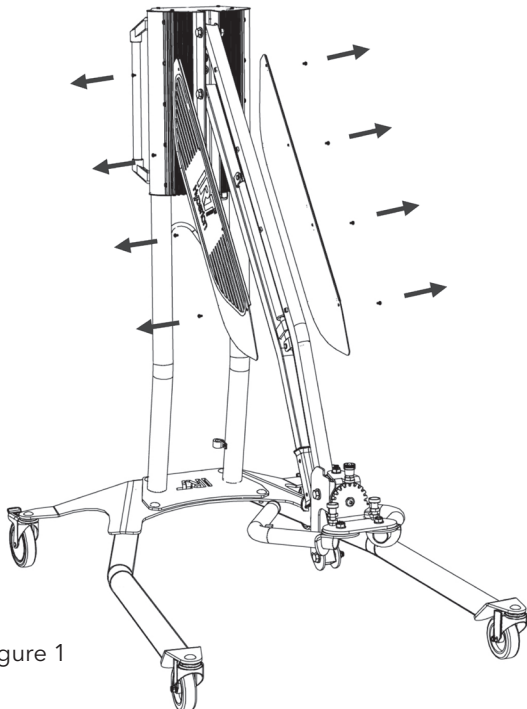

Figure 1
1. Remove the four screws fastening the cover that is located on either side of the arm. (figure 1)